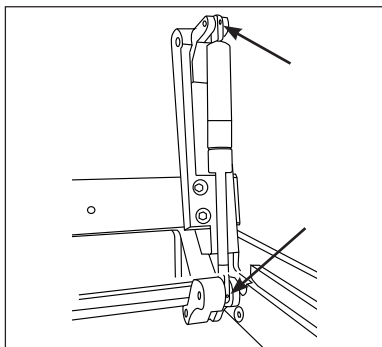

Fig.21
- Loosen the grains of the piston to be replaced (fig. 21);
- Unscrew the piston (as in fig.21);